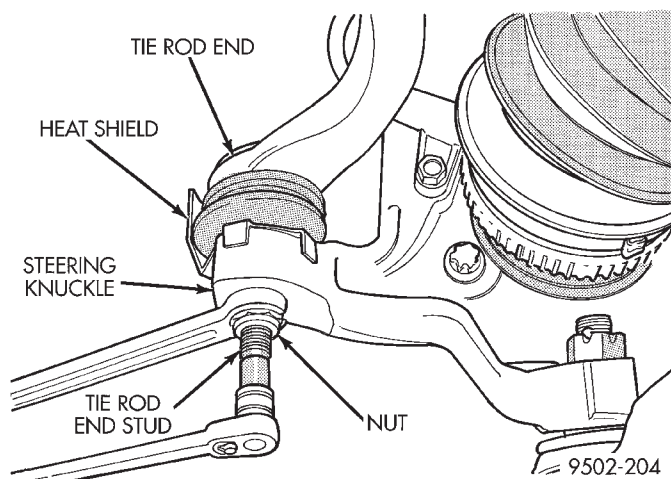

Fig. 7 Removing Tie Rod End Attaching Nut
(8) Remove braking disc from front hub.
(9) Remove nut attaching outer tie rod end to steering knuckle. **Remove nut from tie rod end by holding tie rod end stud with a 11/32 socket and loosen and remove nut (Fig. 7).**